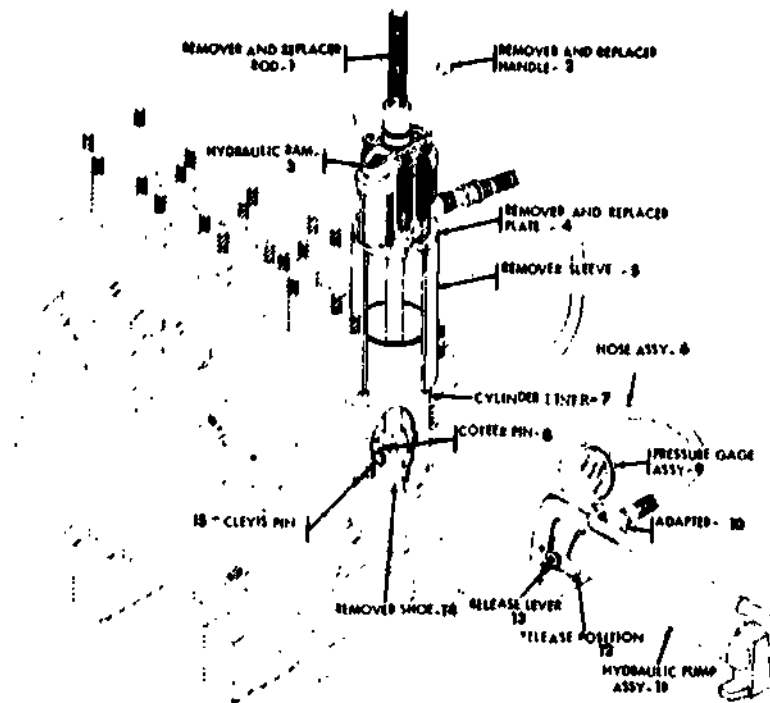

Fig 5-7. Cylinder liner remover and replacer kit showing position of shoe against liner during liner removal (section view).
To remove the defective liner (fig 5-7) (numbers in parentheses refer to fig 5-7), use the procedure outlined below. Assemble the remover and replacer rod (1) and remover shoe (14) and secure the clevis pin (15) and cotter pin (8). Insert the rod up through the cylinder liner, from the bottom of the crankcase, until the shoe seats in the bottom of the liner. With an assistant holding the rod and shoe in position, position the remover sleeve (5) over the liner to be removed.
Remove the cotter pin (8), the clevis pin (15), and the remover shoe (14), shown in figure 5-7, from the remover and replacer rod (1).
**Caution:** The pressure gage attached to the pump indicates pressure exerted for cylinder liner installation. If indicator needle moves into "danger zone" (red area), stop pumping action immediately and investigate the cause. If cylinder liner cannot be installed without the indicator needle entering the danger zone, remove the liner as directed in figure 5-7. Repeat the installation procedure using a different liner.